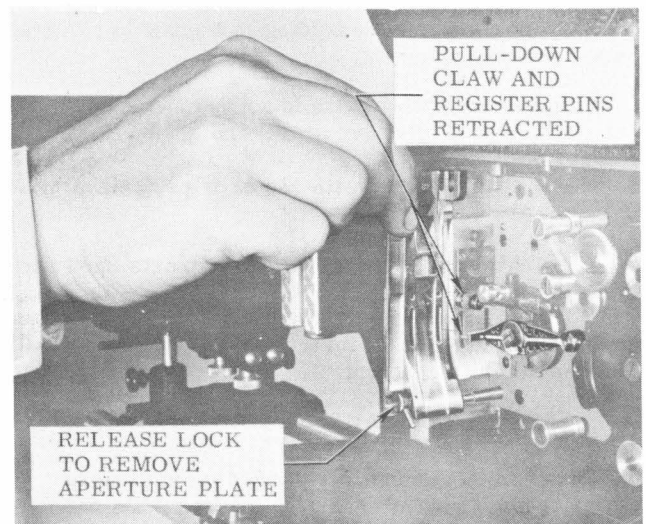

Figure 5-1. Removing Aperture Plate
c. Remove aperture plate from camera by turning locking lever at bottom and sliding plate out. (See figure 5-1.)